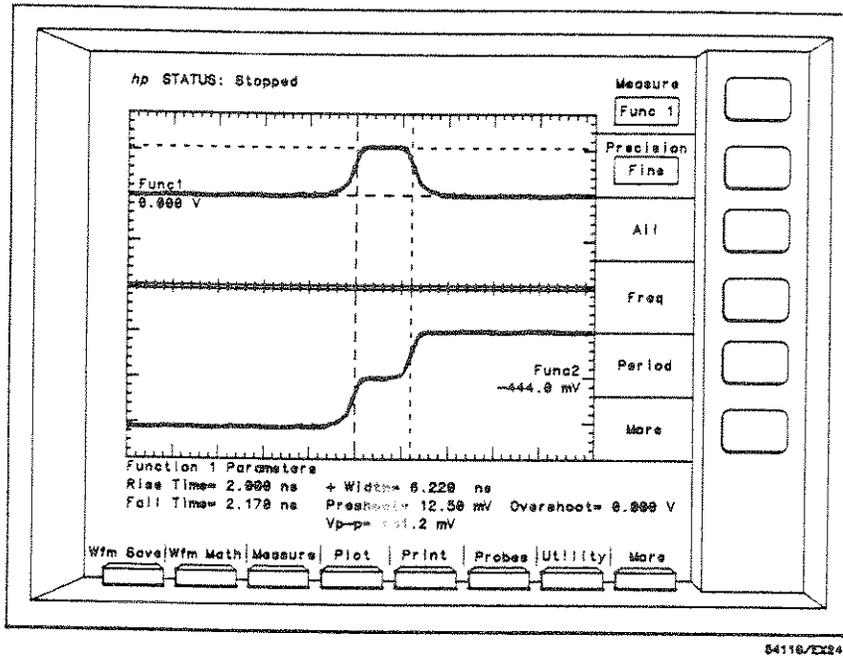

Figure 7-29. Automated Measurements on Func 1.
8. Return to the measure menu and measure "All" parameters on func 1 (see figure 7-29). The instrument will make the measurements that it can using the the displayed data.